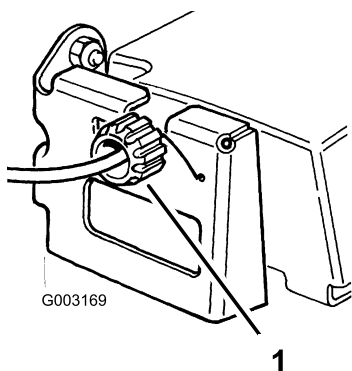

Figure 30
2. Rotate the control knob clockwise a half turn if the lawn mower does not self-propel. If the lawn mower creeps forward, rotate the knob a half turn counterclockwise to loosen the belt (Figure 30).